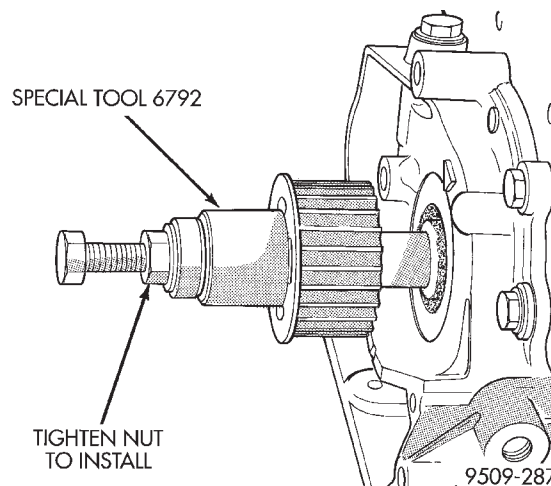

Fig. 90 Crankshaft Sprocket—Installation
(7) Install crankshaft sprocket, using Special Tool 6792 (Fig. 90).
(8) Install oil pump pick-up tube and oil pan.
(9) Install Timing Belt. Refer to Timing Belt Installation in this section.